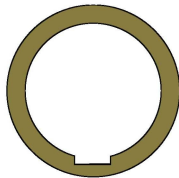

Figure 1
- **Step 3** Modify both CR-2050 rings as shown in Fig. 1. A sanding twig is the best tool for this job.